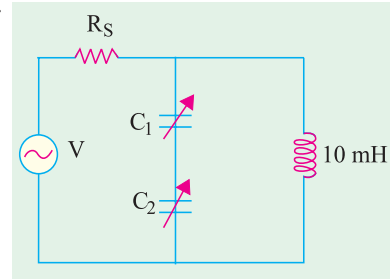

Fig. 52.11
**Example 52.9.** The capacitance of a varactor varies from 5 to 50 pF. Two such varactor diodes are used in the tuning circuit of Fig. 52.11. If  $L = 10\text{ mH}$ , determine the tuning range of the circuit.
**Solution.** It should be noted that the two varactor capacitances are connected in series (Fig. 52.11).